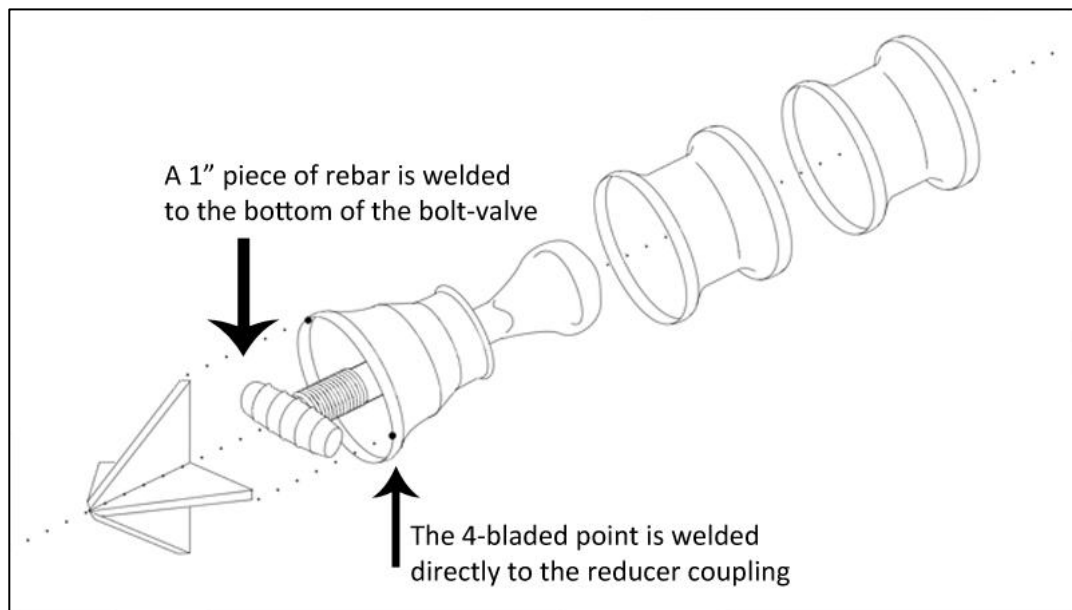

Figure 5 - Exploded view of fixed-point drill bit
- ii. Place the bolt into the reducer coupling and weld a piece of rebar across the end of the bolt, making a T (Figure 5). This will prevent the bolt-valve from slipping out the top of the bit.